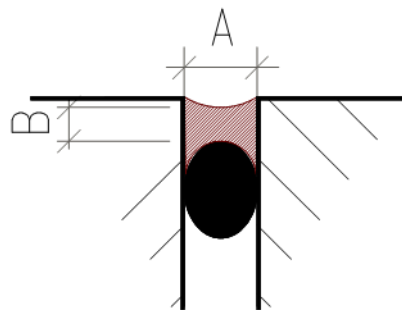

FIGURE 2 Joint width (A) and joint depth (B) of a sealant joint (sealant marked in red, backer rod marked in black)
Joint width (A) (see Figure 2)	between 6 mm and 45 mm
Elastic sealants may adhere to only two sides of the joint to perform properly. The bottom surface of the sealant must be free to deform. If the bottom of sealant adheres, the sealant will rupture during deformation. To avoid adhesion to the joint's bottom and to limit its depth, backing rods are used (see Figure 2).